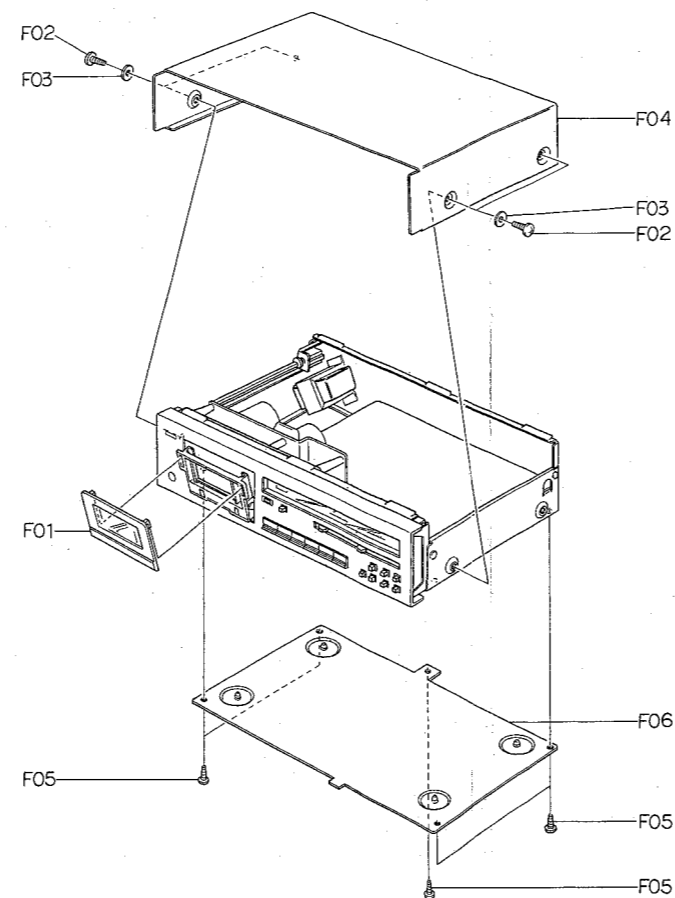

Fig. 3.1
Refer to Fig. 3.1.
- (1) Refer to Fig. 3.1. Remove Top Cover Ass'y and Bottom Cover Ass'y referring to items 3.2 and 3.3.
- (2) Pull out F01 (Volume Knobs).
- (3) Remove F02 (Power Switch Joint Bar) by releasing the self-interlocking pin of the Power Switch Joint Bar from Power Switch, and turn F02 (Power Switch Joint Bar) by 90° either clockwise or counter-clockwise, then disassemble F02 (Power Switch Joint Bar) from the Power Switch Knob Ass'y.
- (4) Remove F03, then disassemble F04 (Front Panel Ass'y).
- (2) Remove F01, F02 and F03, then disassemble F04 (Rear Panel Ass'y).
- (3) Remove F05 and F06, then disassemble F07 (Power Transformer).
- (4) Remove Power Switch Joint Bar by releasing the self-interlocking pin of the Power Switch Joint Bar from Power Switch and F08, then disassemble F09 (Power Switch Holder Ass'y).
- (5) Remove F10, then disassemble F11 (Power Switch).